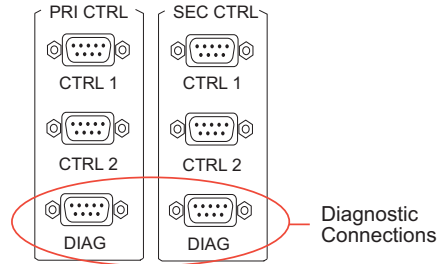

Figure 6-1. Diagnostic Connections (Rear View)
- 1 Locate the permanent serial ports on the rear of the router, as shown in Figure 6-1. The ports are labeled 'DIAG':